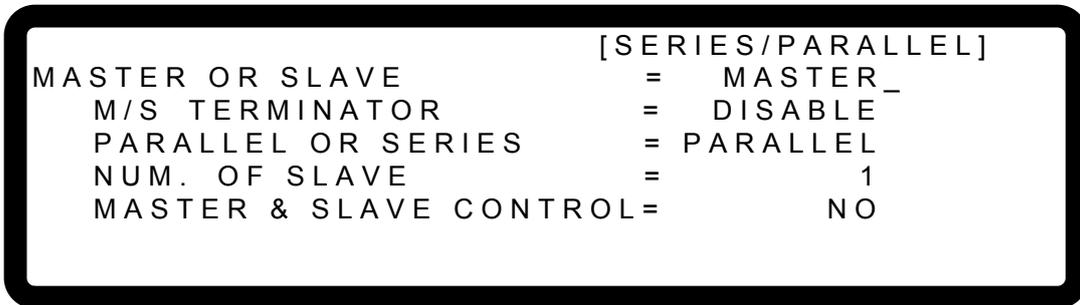

Figure 3-33
2. Use the numeric (**0**) key or “Rotary” (⊙) knob to set MASTER as Figure 3-33 shows.
4. Use the numeric (**1** ~ **0**) key or “Rotary” (⊙) knob to ENABLE or DISABLE the TERMINATOR as Figure 3-33 shows.